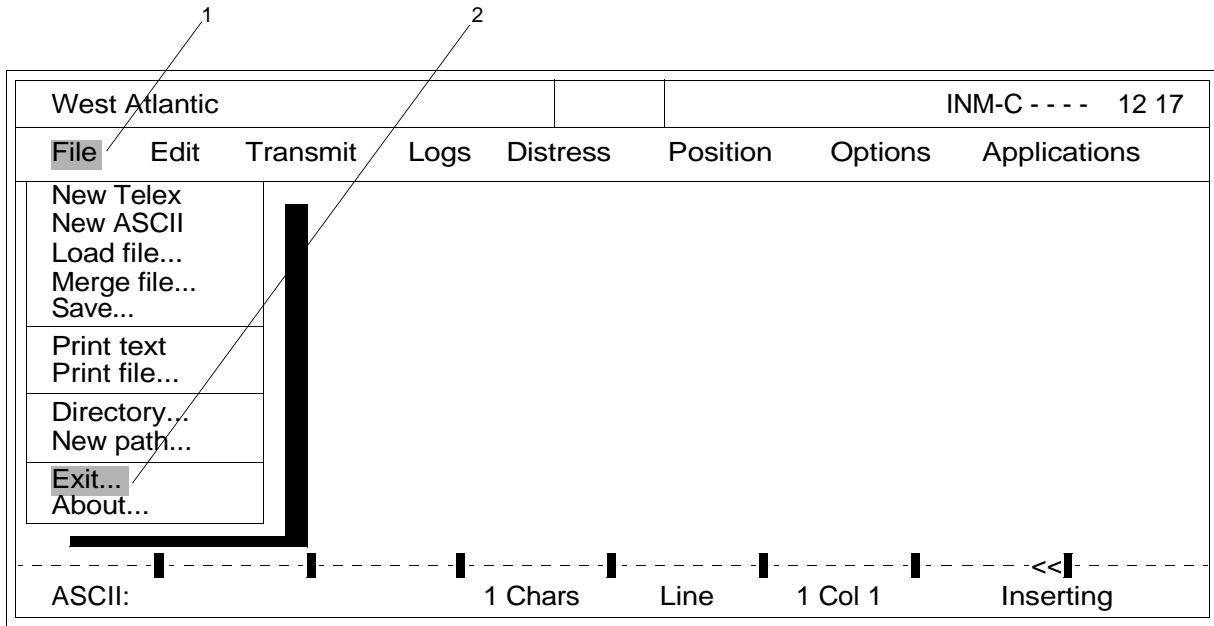

Figure 5. Options Menu Bar
2. Highlight File (figure 5, item 1) from the menu bar.
4. Highlight Exit (figure 5, item 2) from the drop-down menu.